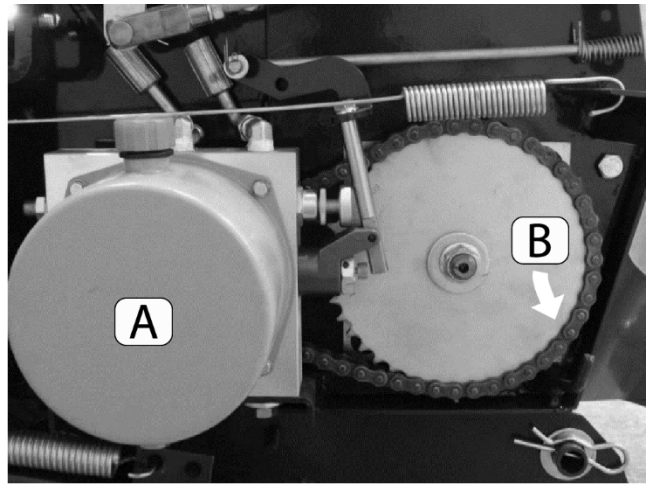
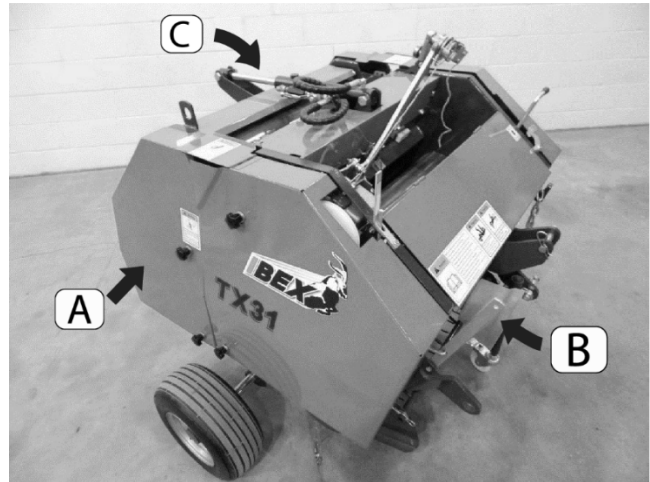

Figure 8 Right side of baler (hydraulic pump & chain)
Figure 14
The baler raises the tailgate to eject the bale using a hydraulic cylinder. Hydraulic fluid is pushed into the cylinder by the hydraulic power pack (Figure 8, A), which is powered by the rotating motion of the PTO shaft which turns the roller chain (B).
The bale is allowed to exit the chamber by lifting the tailgate (Figure 14, A). Pulling the tailgate lift lever (B) activates the hydraulic power unit (Figure 8, A) to retract the cylinder (C) to pull the gate open. The gate remains open while the lever is pulled. Once the lever is released, the gate closes.